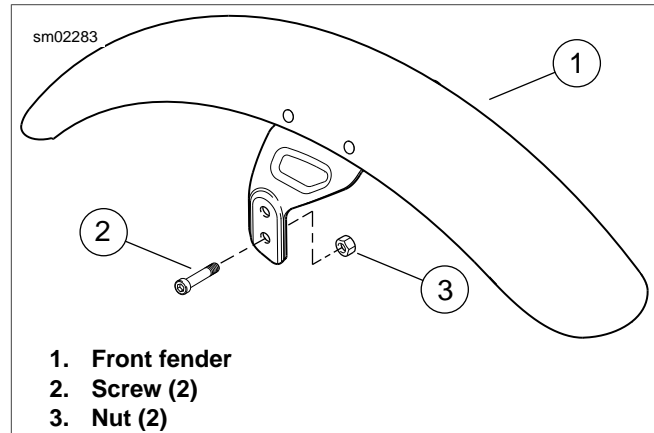

Figure 2-106. Front Fender
1. See Figure 2-106. Remove both fender mounting screws (2) and nuts (3) on each side.
2. See Figure 2-106. Ensure the fender mounting brackets are resting against the machined bosses of the forks and install screws (2) through fender mounting holes in fork legs. Thread nuts (3) onto screws.